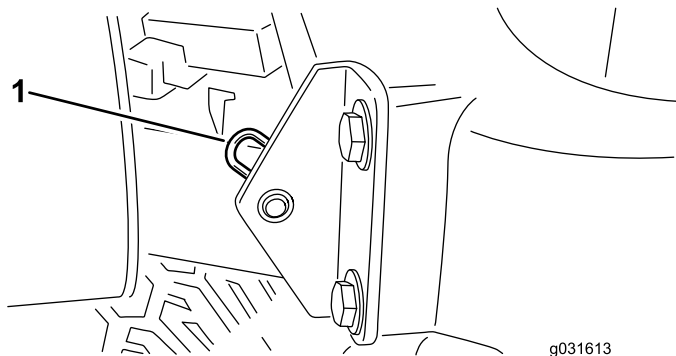

Figure 33
2. Remove the hairpin cotter securing the hood pivot to the mounting brackets (Figure 33).